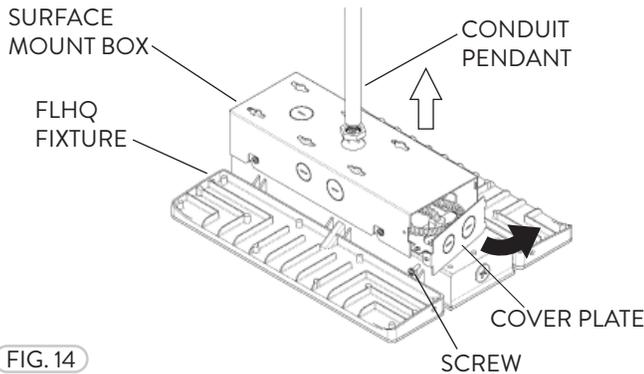

FIG. 14
- 2 Once the Surface Mounting Box is installed onto the fixture, fasten the Conduit Pendant Mount to the top from the knock-out hole using a Lock Nut that matches the thread on the Conduit. Run the AC Power Supply Cable down the Conduit and join the wires to the FLHQ Driver. The small FLHQ Cover Plate can be removed by removing one screw (Fig. 14). The Surface Mounting Box can be mounted directly to a Mounting Surface similar to the Hanger Mount (Refer to Fig. 7). The Mounting Surface does not have to be level.